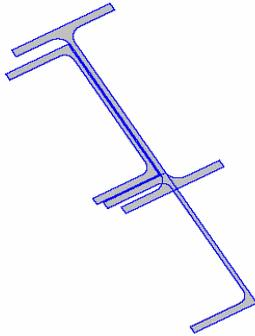

Fig. 71 *The section after the second section has been set*
- press the **Add** button (Fig 71). In this case again the intersection of the elements shall be ignored